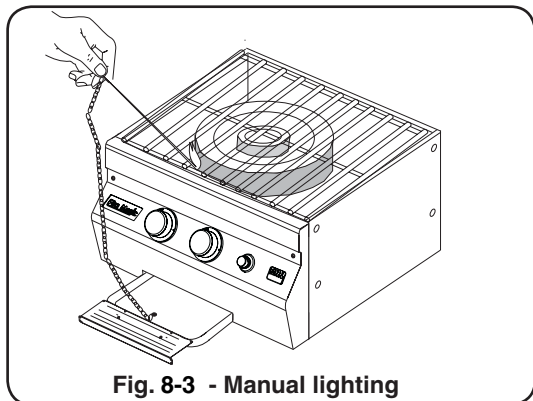
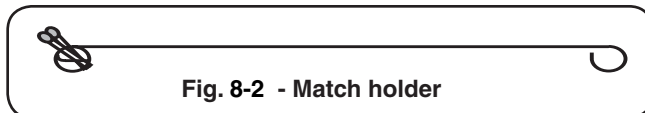

Fig. 8-3 - Manual lighting
Fig. 8-2 - Match holder
REMEMBER: FOR SAFE MANUAL LIGHTING, PLACE A BURNING MATCH OR BUTANE LIGHTER BESIDE THE BURNER - **THEN TURN ON THE GAS** (see Fig. 8-3).
2. Insert either a burning long-barrel butane lighter, a burning long-stem match, or a burning match held by a wire extension holder (Fig. 8-2) through the cooking grids to the burner (Fig. 8-3). For backburners, hold the flame against the perforated material of the back burner. For sideburners, hold the flame against the burner.